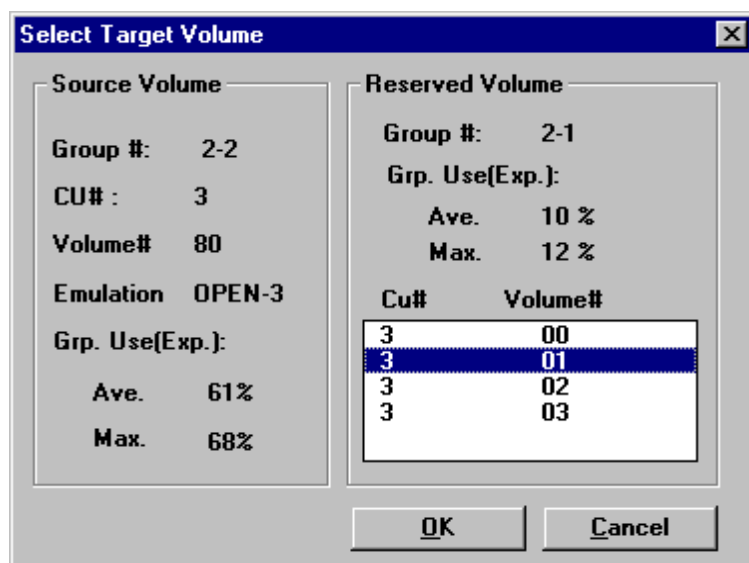

Figure 4.20 Selecting the Target Volume
4. The Select Target Volume panel (see Figure 4.20) now opens and displays the available target volumes (i.e., reserved volumes) in the selected target parity group. Select the desired target volume, and then select **OK**.